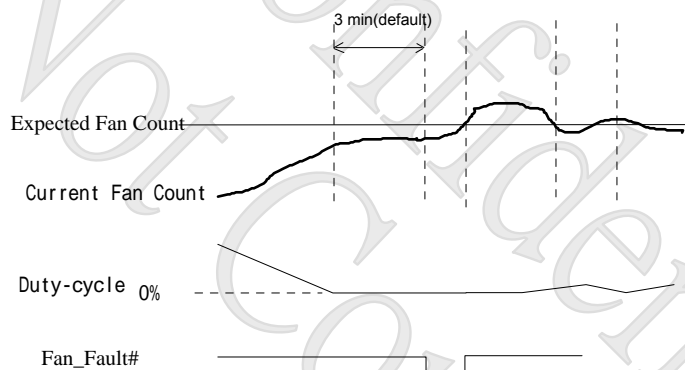

Figure 5-13
- (2). When PWM\_Duty reaches 00h, if the fan speed count can't reach the fan expected count in time. (Figure 5-13)